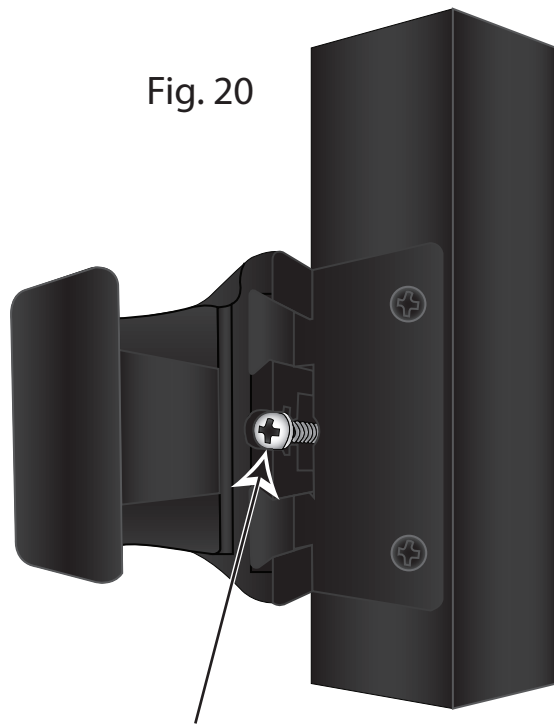
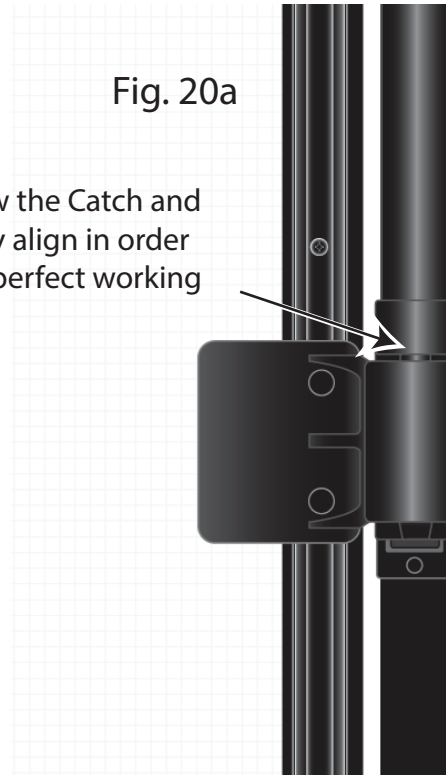

Fig. 20
Fig. 20a
In Fig. 19 shows how to lock down your Latch body once final adjustments have been made. Fig 20 shows how to make horizontal adjustments. Fig 20A shows how the 2 parts should line up for proper latching.
- Area 2 (Catch) must be adjusted in this example to meet the Latch Body. Using a Philips Head screw driver, turn the Catch Adjustment Screw counter clockwise so that the Catch will slide out to meet the Latch Body as shown in Fig. 20. When the correct amount of adjusting is done, the Catch should meet the Latch Body and lock smoothly as shown in Fig. 20a .